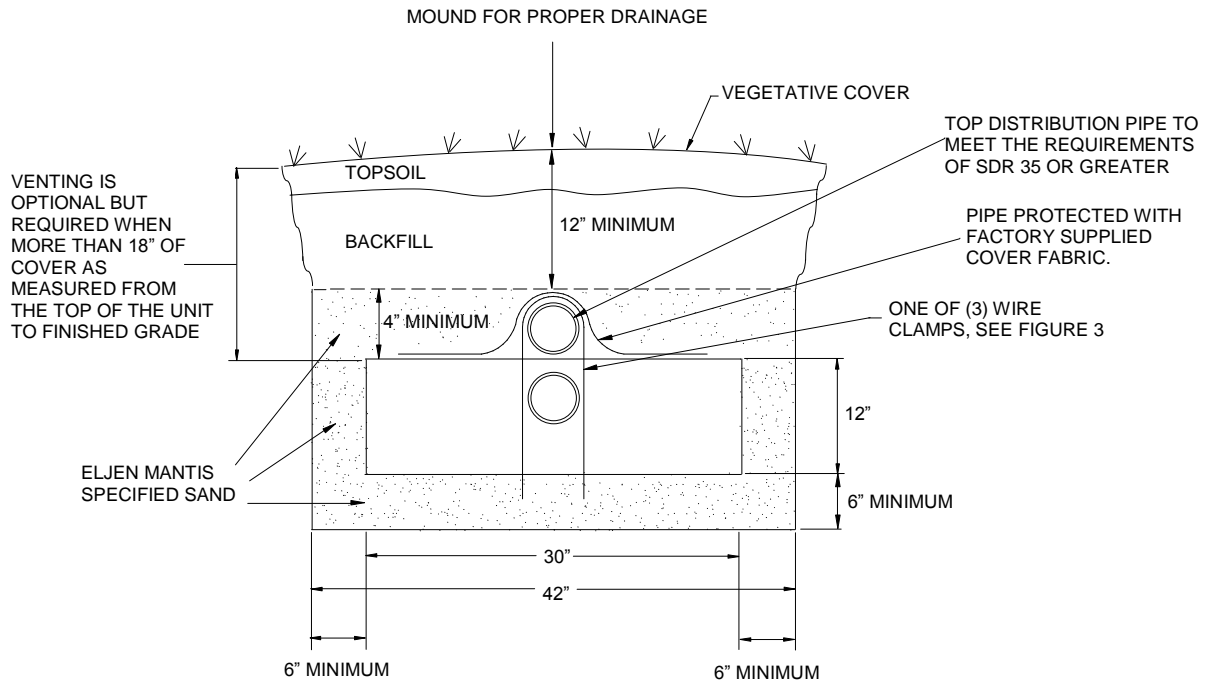

Figure 1
16. Installing the Distribution Pipe: Refer to Figures 1 and 3 for details.